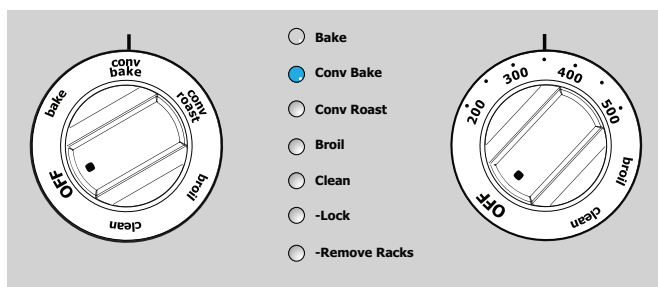

Figure 21: Convection bake selection
2. Turn the function dial to **conv bake**. The Conv Bake indicator light will flash (Figure 21).